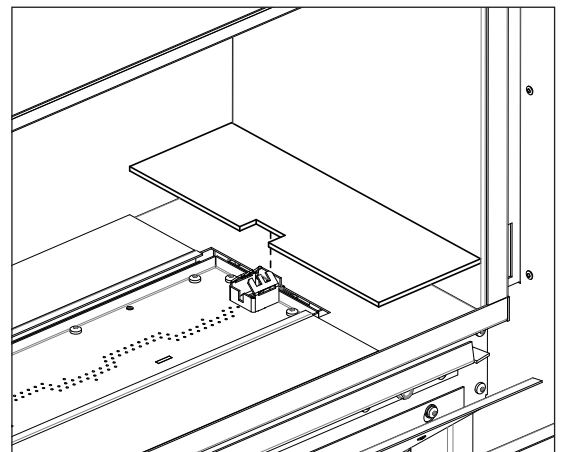

Figure 63: Bezel Placement Around Pilot
3. Ensure that the short, notched bezel is placed around the pilot assembly as shown in Figure 63.